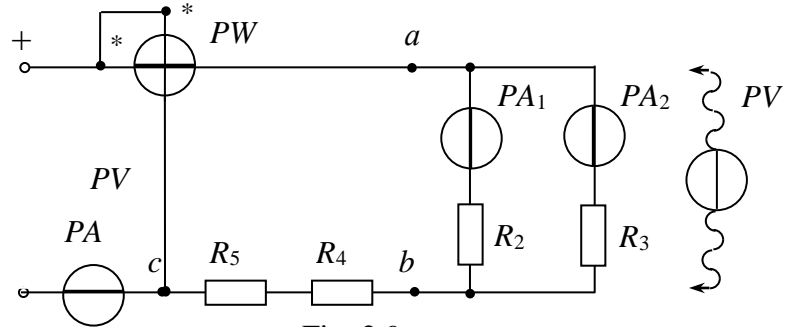

Fig. 2.9
1. To collect the circuit (fig. 2.9) and connect it to the clamps $< - >$ $< 0 \div 120 V >$. To place $LATR$ switch in position $< - >$, $< 0 \div 120 V >$.
2. To investigate the circuit with mixed connection of resistors (fig. 2.9). To set the input voltage given by tutor ($80 \leq V \leq 100 V$). To write down the results to the table 2.2 item 2.
3. To investigate the circuit with parallel connection of resistors R_2, R_3 . To short the series subcircuit R_4, R_5 (points b, c fig. 2.9). To set the input voltage given by tutor ($14 \leq V \leq 18 V$). To write down the results to the table 2.3.
4. To investigate the circuit serial connection of resistors R_4, R_5 . To shorten the parallel subcircuit $R_2 R_3$ (points a, b fig. 2.9). To set the circuit current given by tutor ($170 \leq I \leq 200 \text{ mA}$). To write down the results to the table 2.4.
The name and purpose of the work. Homework – the calculation of the circuit. Schematic diagram of the investigated circuit (fig 2.9). Tables 2.2, 2.3, 2.4. The schemes of circuits of current divider and voltage divider. The results of calculations. Conclusions.